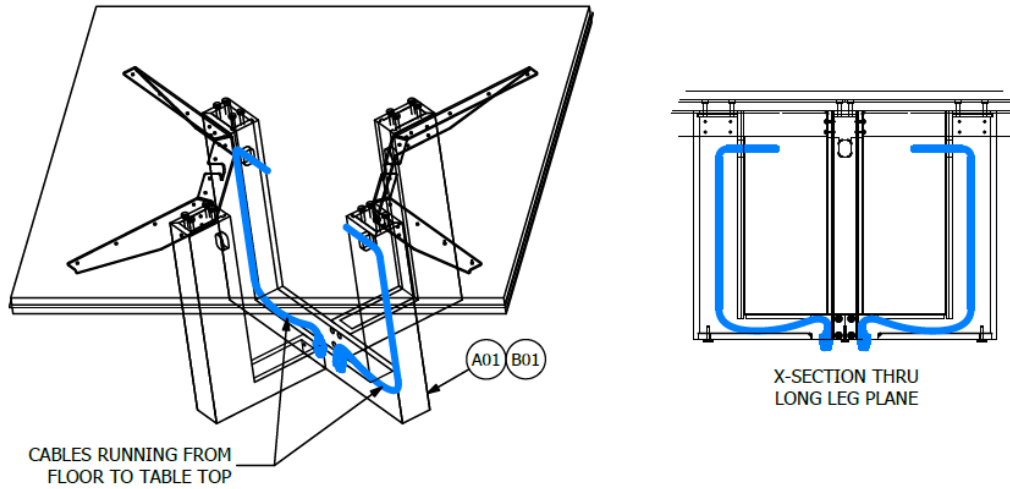

FIGURE 12: CABLE MANAGEMENT
1. Any cabling from the floor to the tabletop can be run thru the access channels in the Long Legs (A01\B01). See Figure 12.